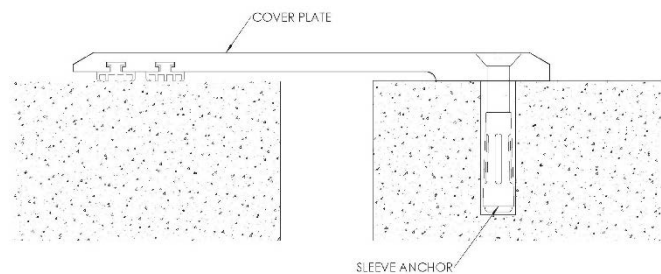

Figure 3
1. Cut and fit cover plate to required length, if installing more than one piece, lay out entire run to ensure proper alignment. Make sure that the predrilled holes are lined up at least 1-5/8" from the edge of the expansion joint. **See Figure 3.**